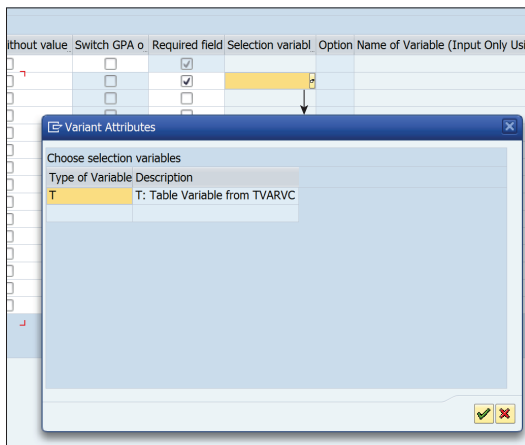

Figure 14.9 Selection Variable
1. Go the VARIANT ATTRIBUTES screen of the variant for the selection screen, select the **[F4]** help in the SELECTION VARIABLE field, and select the TABLE VARIABLE FROM TABLE TVARVC option, as shown in Figure 14.9.